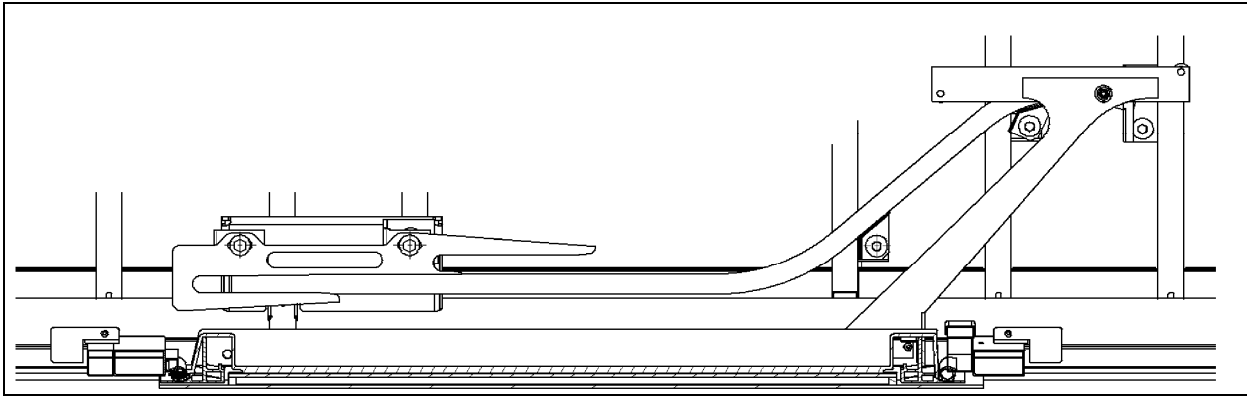

FIGURE 53: WCL UPPER ARM AND RAIL
2. Slide the top rail into the upper arm then bolt the rail to the structure. Do not fully tighten (Refer to Figure 53).